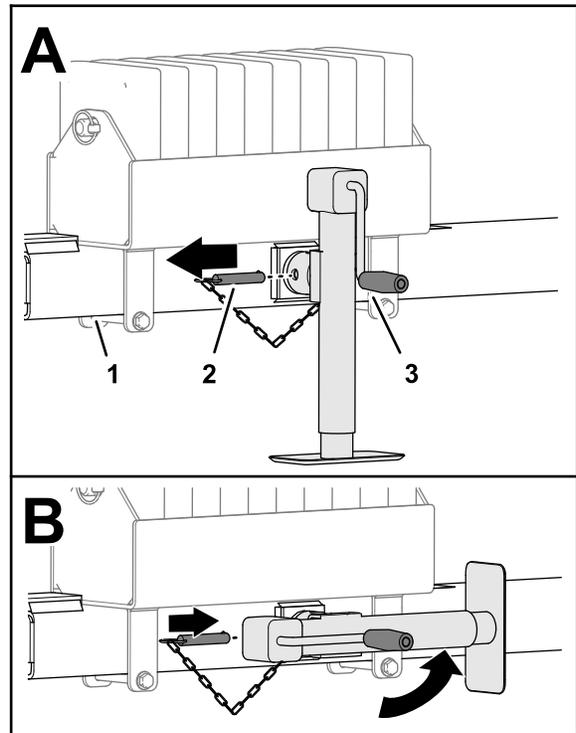

Figure 28
4. Remove the pin (Figure 28).
5. Rotate the jack horizontal (Figure 28).
6. Insert the pin through the horizontal holes on the jack and hitch tube (Figure 28).